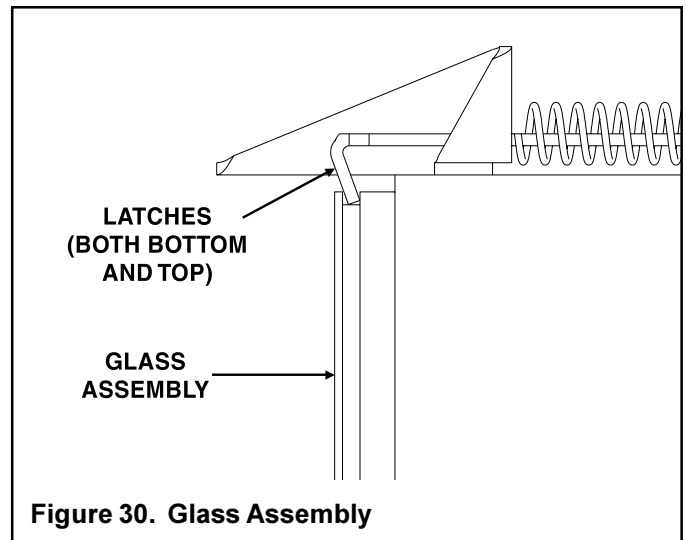

Figure 30. Glass Assembly
- Pull the four glass latches out of the groove on the glass frame. Remove glass door from the unit (see Figure 30).